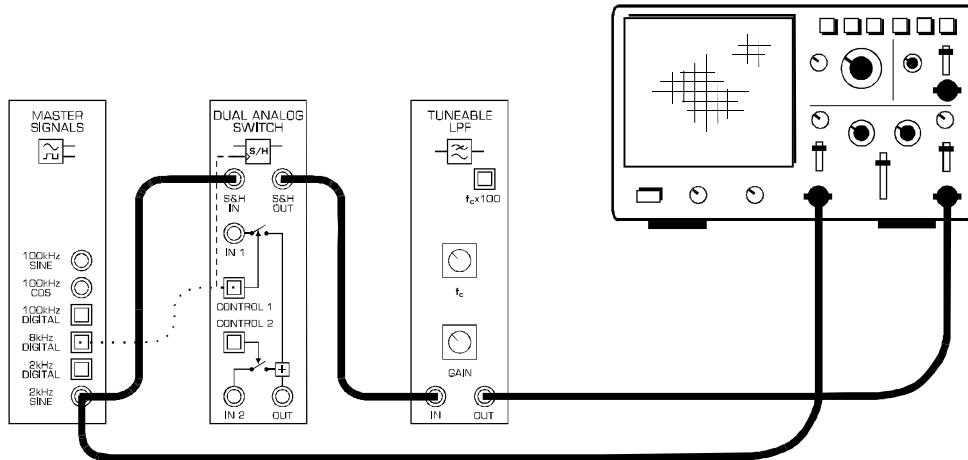
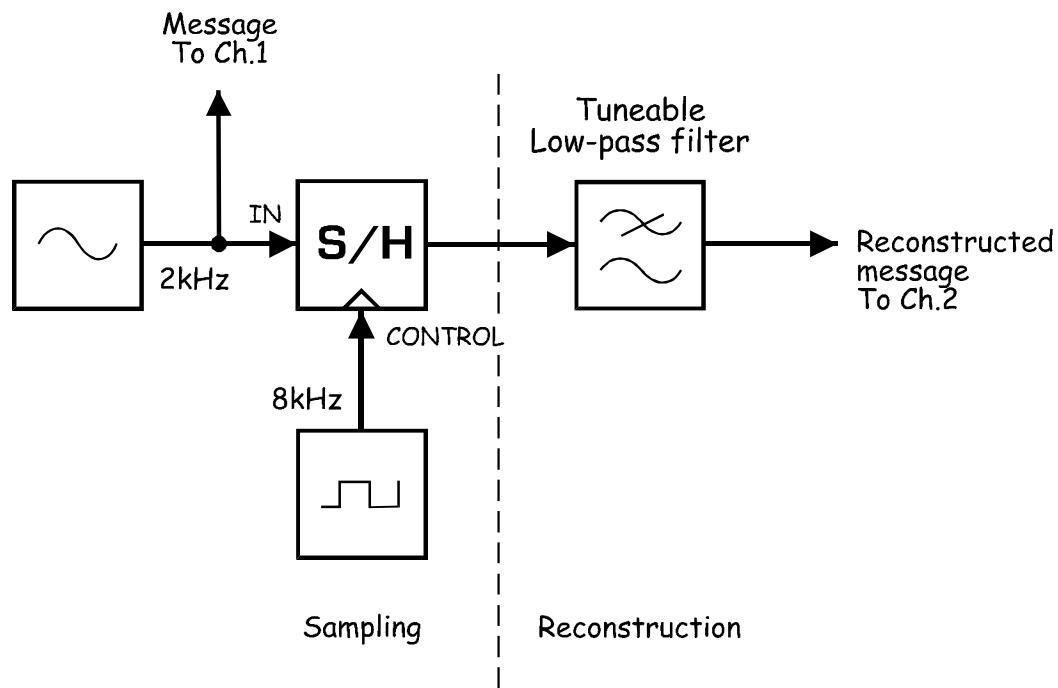

Figure 7
Figure 8
18. Modify the set-up as shown in Figure 7 below.
The set-up in Figure 7 can be represented by the block diagram in Figure 8 below. The Tuneable Low-pass Filter module is used to recover the message. The filter is said to be "tunable" because the point at which frequencies are rejected (called the *cut-off frequency*) is adjustable.